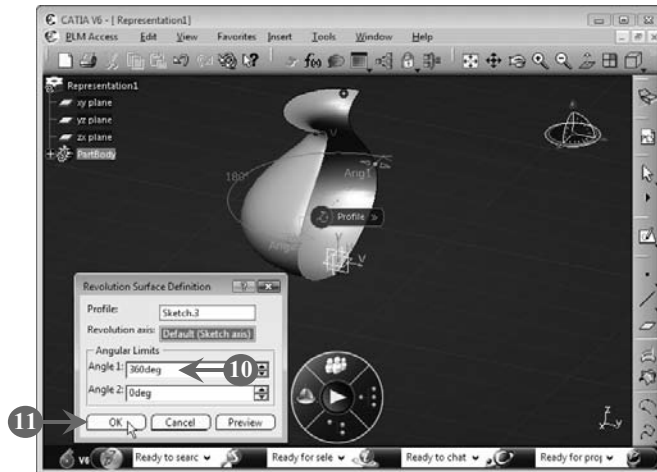

FIGURE 5.38
The **Revolution Surface Definition** dialog box opens with the profile and the revolution axis automatically added to the **Profile** and **Revolution axis** boxes, respectively (**Figure 5.38**).
10. Enter a value representing the angle of revolution in the **Angle 1** box in the **Angular Limits** group (Figure 5.38). In our case, we have entered **360deg**.
11. Click the **OK** button to close the **Revolution Surface Definition** dialog box, as shown in Figure 5.38: